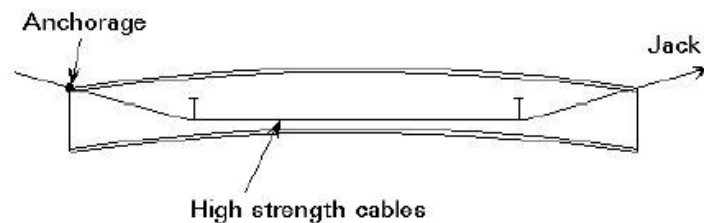

Figure 13 Prestressed beam with cable
Prestressing of steel beams is achieved with high-strength tendons or cables in two ways: (1) by placing them below the centre of gravity of the beam and attaching them to the beam at its end, which results in constant prestress; or (2) by draping the tendons along the length of the beam (Figures 13 and 14).